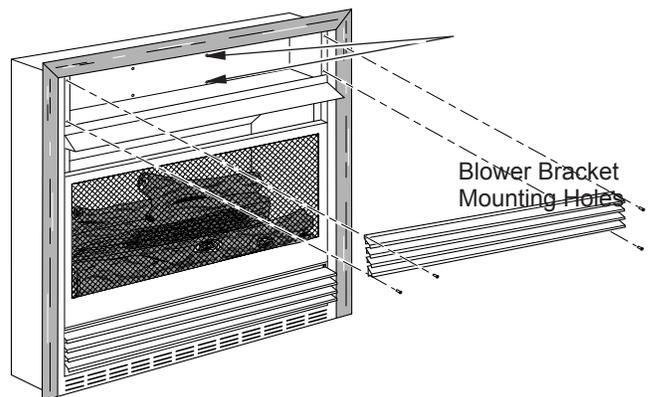

Figure 2 - Removing Upper Louver Assembly
1. Remove 4 brass-plated screws from louver assembly (see Figure 2). Save these screws.
Reinstall upper louver assembly (see Figure 2, page 1) and close lower louver door.
7. Reinstall upper louver assembly (see Figure 2, page 1) and close lower louver.